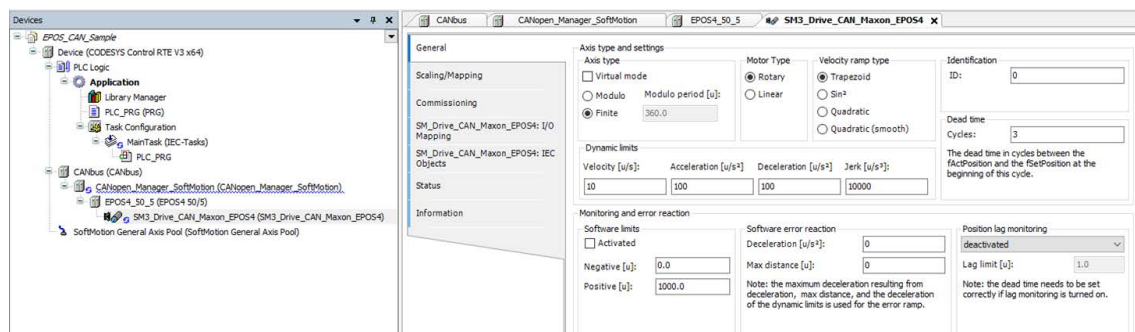

Figure 6-62 CANopen integration CODESYS | Configure SoftMotion drive
- 1) Select **SM3_Drive_CAN_Maxon_EPOS4** (refer to →Figure 6-62).